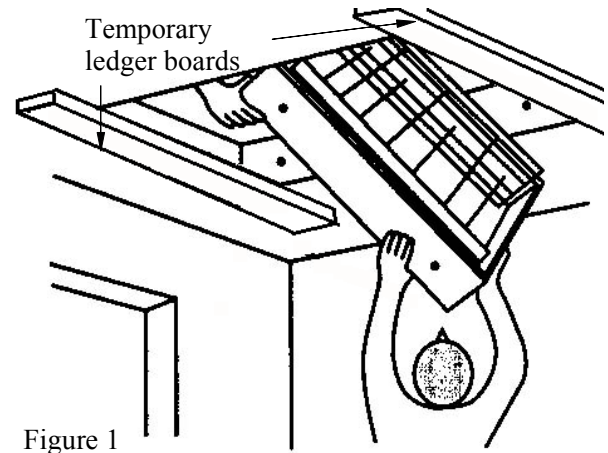

Figure 1
2. Install temporary support ledgers. Using 2 ½" wood screws (not included), attach 1 x 4 temporary support ledger boards at both ends of the opening to provide temporary support for the stairs during installation. These boards must be a minimum of 6" longer than the width of the rough opening in the ceiling. To prevent splitting, pre-drill the holes for the wood screws. These boards are to provide a ledger inside of the opening (Fig. 1).